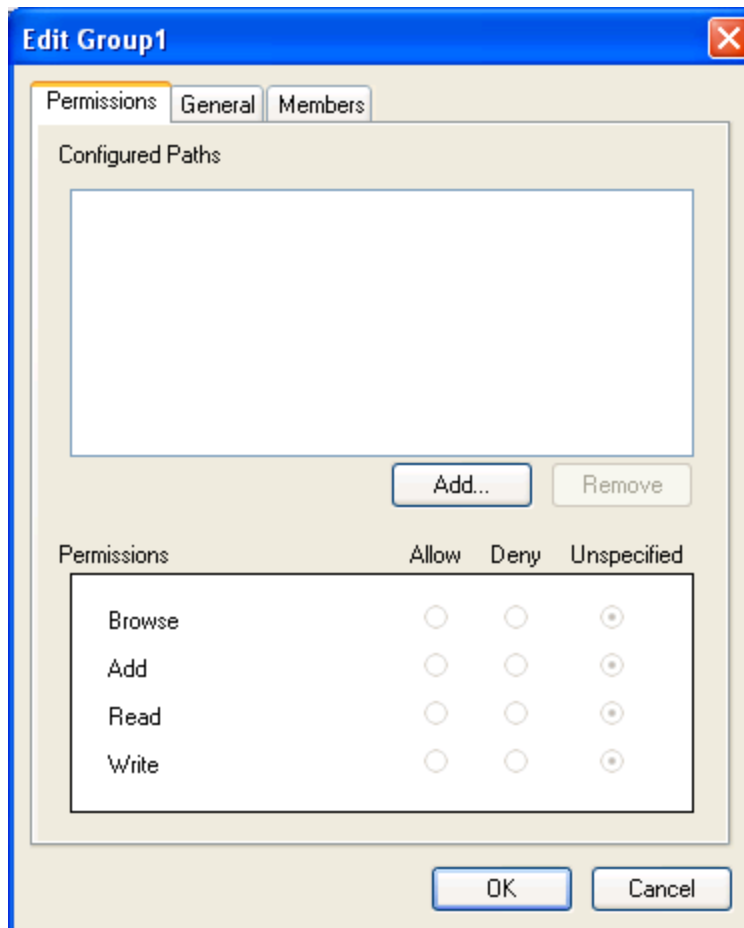

Figure 92 - Edit <Groupname> Window (Permissions Tab)
2. The **Edit <Groupname>** window (Figure 92) appears.